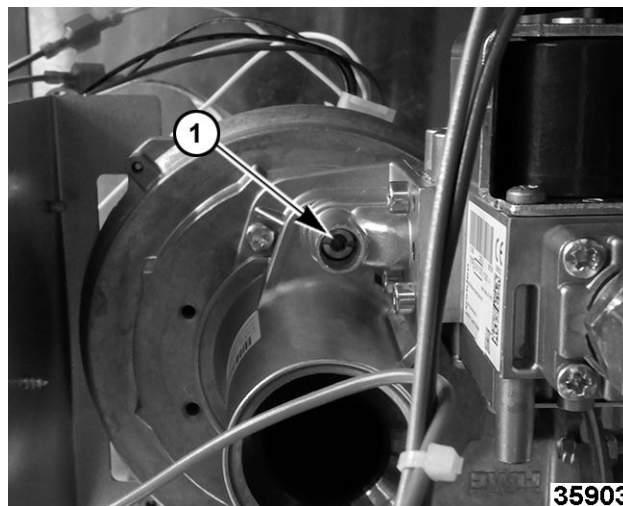

Fig. 52
**Throttle Screw Adjustment, (1, Fig. 52)**